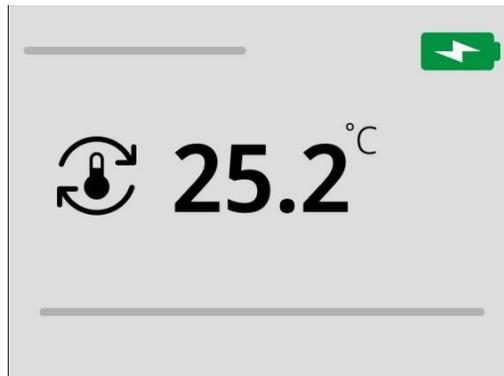

Figure 9.1 Chamber display indicating the warm-up sequence
10. Let the connected chambers warm up and stabilize for 60 min (please refer to Figure 9.1 to see how the warm-up procedure is indicated on the display).